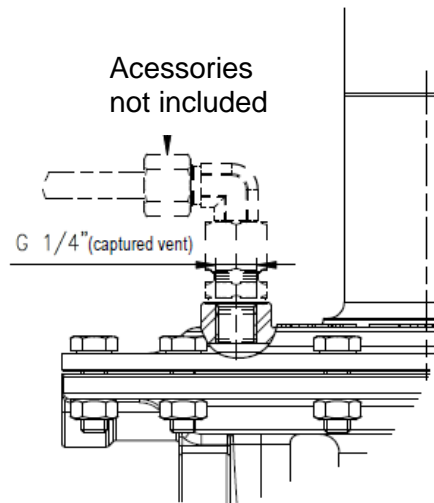

Figure 3 - Leakage line connection
- If the valve is fitted with the optional ¼" diaphragm cover leakage connection Figure 3, it should be forwarded to a "safe place or line". The definition of a "safe place or line" is related to the installation requirements and is responsibility of the installer to determine. **If the valve is EX certified, the leakage line is required for its normal safe operation, don't forget to install it.**